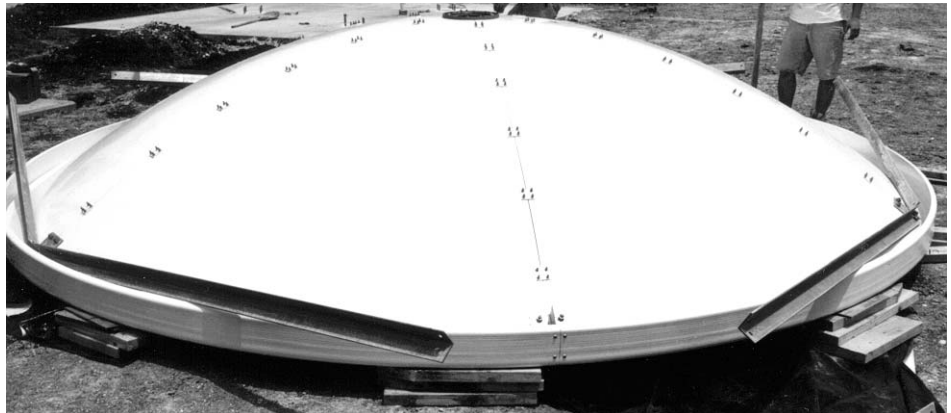

Figure 36
Step 3 Loosely attach plates (P/N 49427) to points **A**, **C** and **E** on convex side of reflector. Loosely attach two support angles (P/N 49438) to each of six plates as shown in Figure 36.